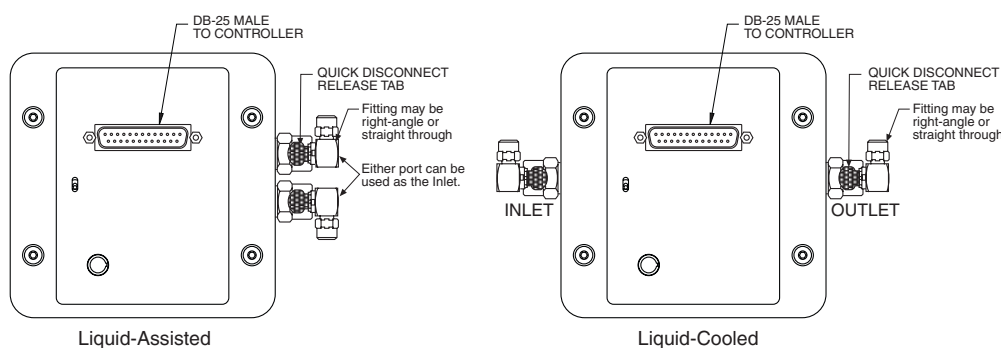

Figure 13. Coolant Ports
For best cooling, connect the inflow and outflow tubing to the ports as indicated in Figure 13.
- 6) Because of the automatic shutoffs, disconnecting the coolant supply is done by simply depressing the release tabs (Figure 13) and removing the fittings. Reconnecting the supply is done by reinserting each fitting into the appropriate valve body until you hear a click.
- 3) Because of the automatic shutoffs, disconnecting the coolant supply is done by simply depressing the release tabs (Figure 13) and removing the fittings. Reconnecting the supply is done by reinserting each fitting into the appropriate valve body until you hear a click.